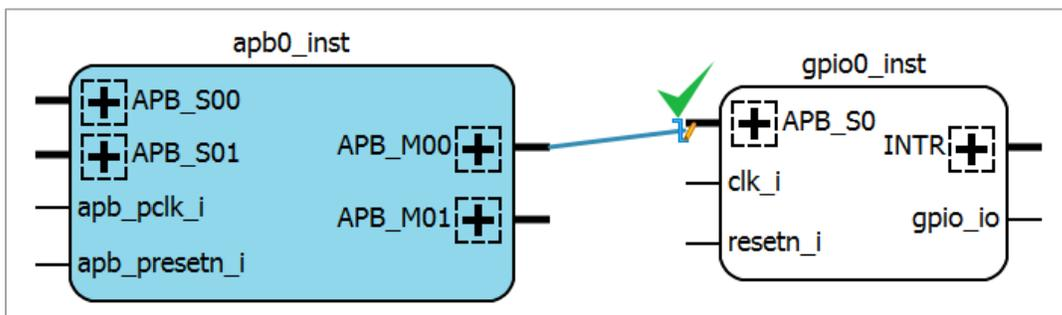
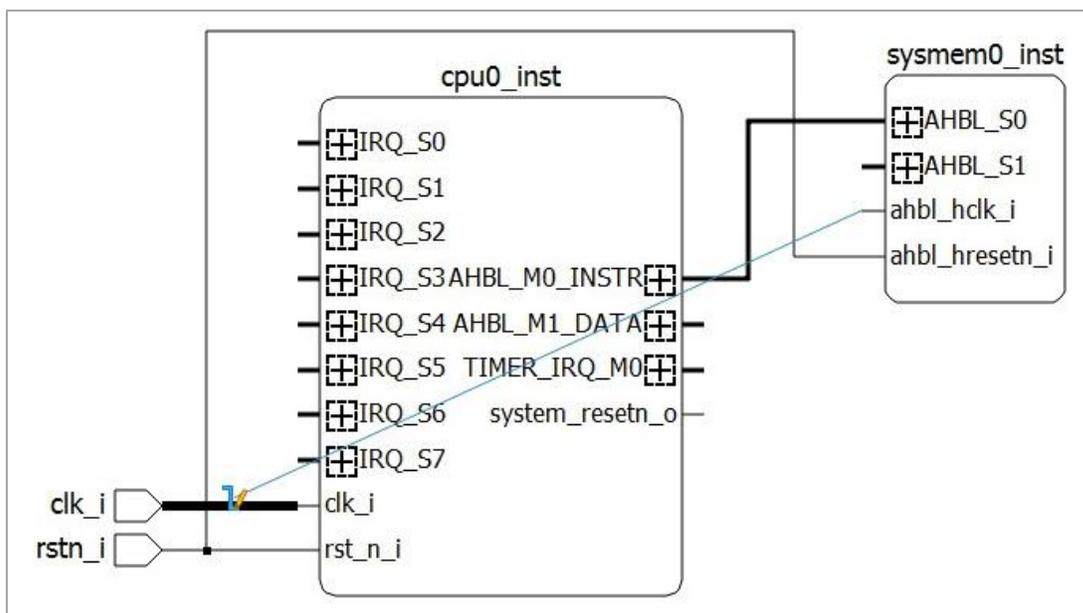

Figure 2.52. Draw a Pin or a Port
Figure 2.53. Draw Nets
1. Move the cursor to a pin or port. The cursor changes to a pencil icon . Click and hold while dragging to another pin, port, or net. An allowed pin or port shows a green checkmark when you hover over it (Figure 2.52). An allowed net becomes bold when you hover over it (Figure 2.53).